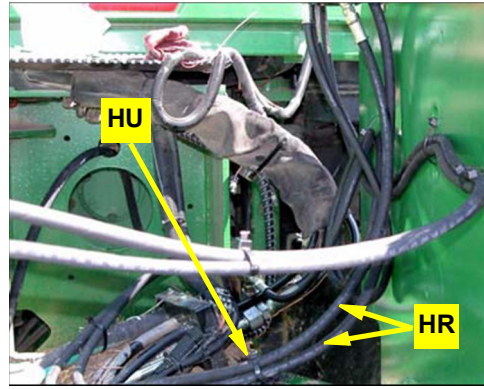

Figure 5a: Steering output hoses routed and secured between run tees and steering block
- a. Connect the steering output hoses **HR** to the run tees **HI** installed in step 4. Route the hoses up to the hydraulic steering block. To prevent entanglement with articulating parts of the tractor, route the hoses adjacent to other tractor plumbing, and secure with heavy duty tie straps **HU** (Figure 5a).
- a. Connect the steering output hoses **HR** to fittings **HK** fitted to the run tees **HI** installed in step 4. Route the hoses up to the hydraulic steering block. To prevent entanglement with articulating parts of the tractor, route the hoses adjacent to other tractor plumbing and secure with heavy duty tie straps **HU** (Figure 5a).